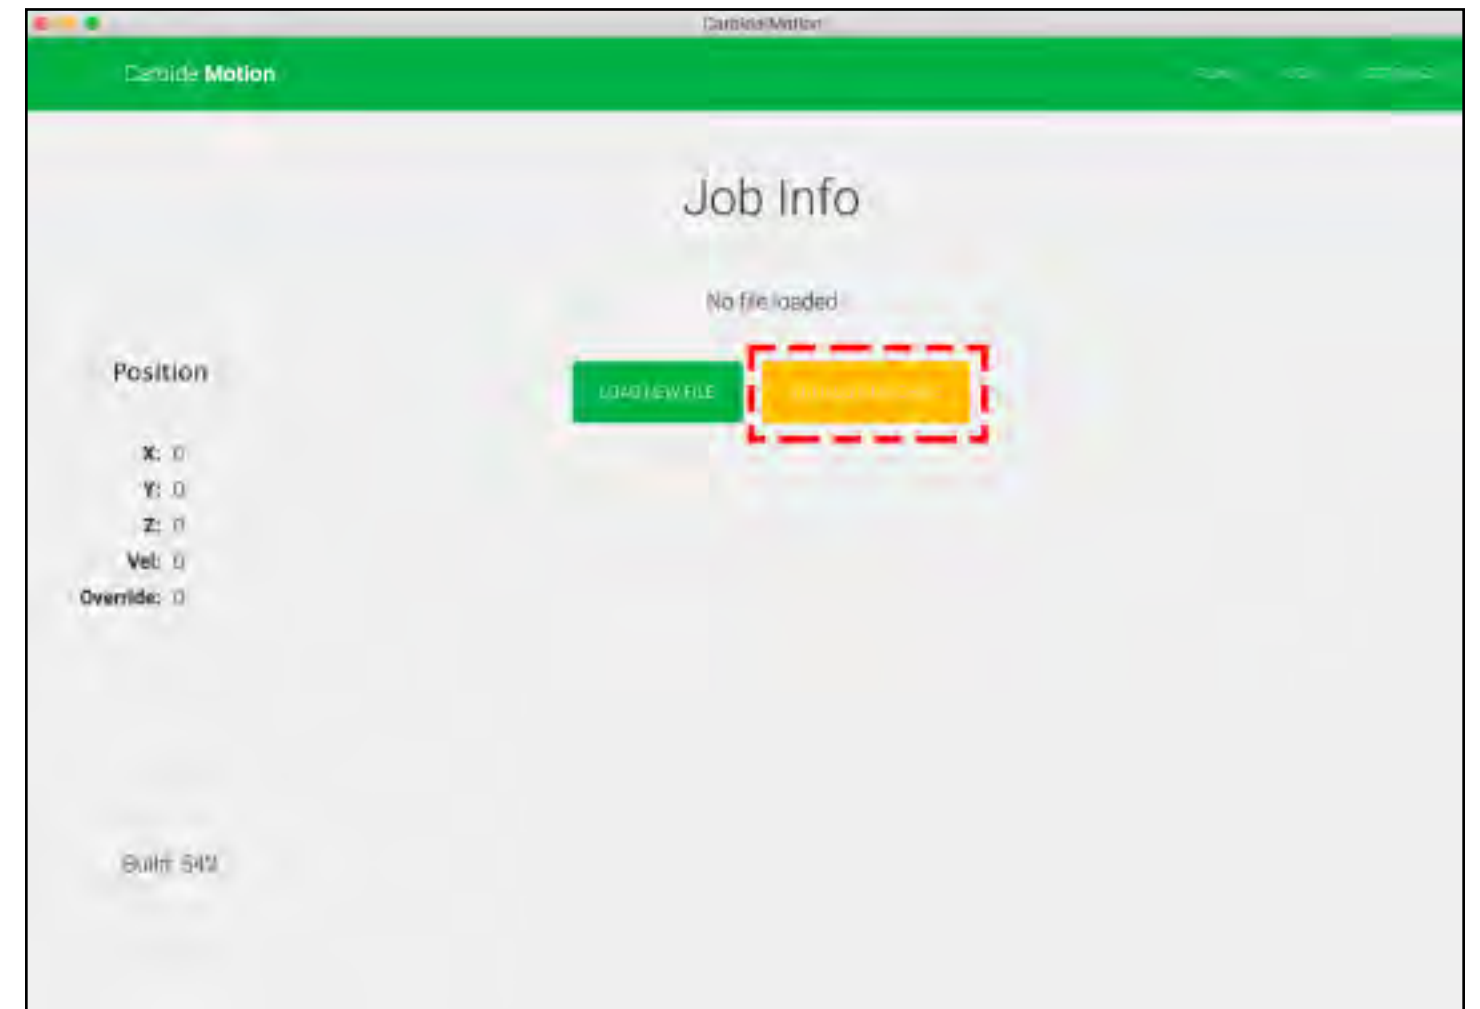

Figure 10-7
1. Click the yellow **Initialize Machine** button to home your Shapeoko 4. See **Fig. 10-7**.